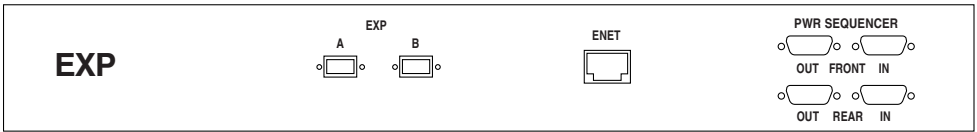
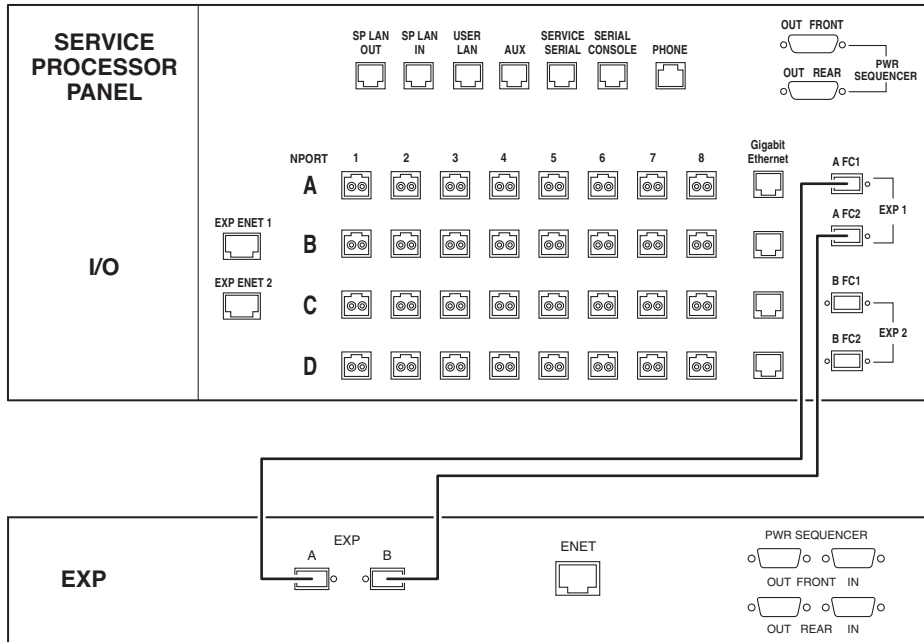

FIGURE 2-8 Expansion Cabinet Service Panel
FIGURE 2-9 FC Cabling Between the Base Cabinet and Expansion Cabinet 1 Service Panels
The base cabinet service panel has two sets of Fibre Channel (FC) ports (EXP 1 and EXP 2) to connect to the expansion cabinets (see FIGURE 2-8). The expansion cabinet service panel has redundant FC ports (see FIGURE 2-9).
Connect redundant Fibre Channel (FC) cables (part number 537-1060-01) as follows (see FIGURE 2-9):